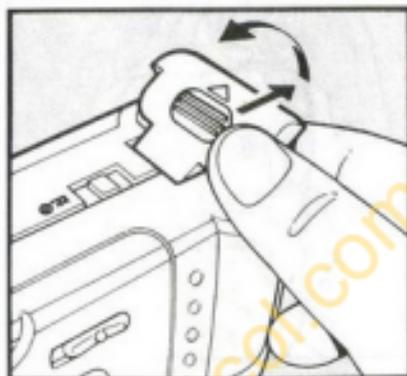

Fig.2 Abb.2 1.2
1. Open the Battery Chamber Cover in the direction of the arrow by pulling it out. (Fig. 2)